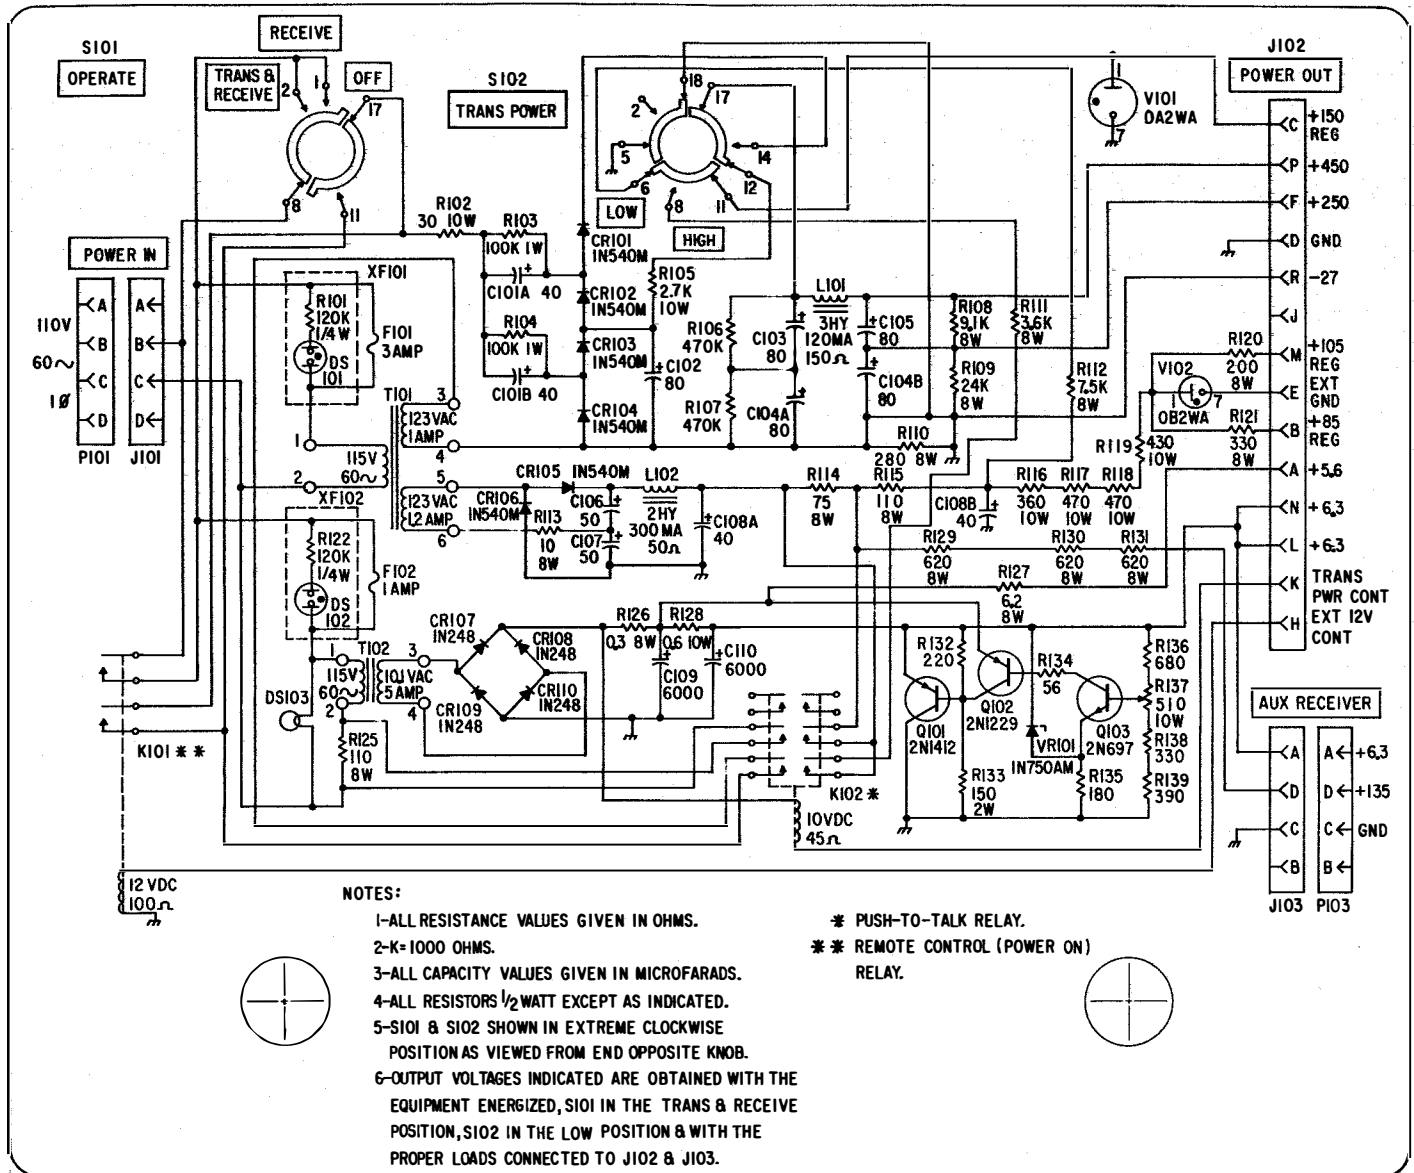

Figure 3-2. Power Supply PP-1175A/SR, Schematic Diagram
b. FUNCTIONAL SECTIONS. - Schematic diagram, figure 3-2, shows that Power Supply PP-1175A/SR has three separate power supply sections. These sections are controlled by manually operated front panel switches and relays which are externally controlled to provide for all the modes of power supply operation. The following paragraphs outline the functional operation of each section.
(1) FILAMENT AND RELAY VOLTAGE SUPPLY.
Since the Power Supply PP-1175A/SR circuitry and components are not complicated, no specific trouble-shooting chart is included in this technical manual. In employing any systematic method for trouble shooting, the methods and procedures followed by technicians will vary. Any method employed is satisfactory as long as it will produce accurate results with the greatest expediency. To assist the technician, operation performance data (tables 4-1, 4-2, and 4-3), schematic diagram (figure 3-2) and illustrations showing the location of circuit components (figures 5-1 through 5-9) are included for use along with the recommended procedures listed below and outlined in paragraph 4-3.